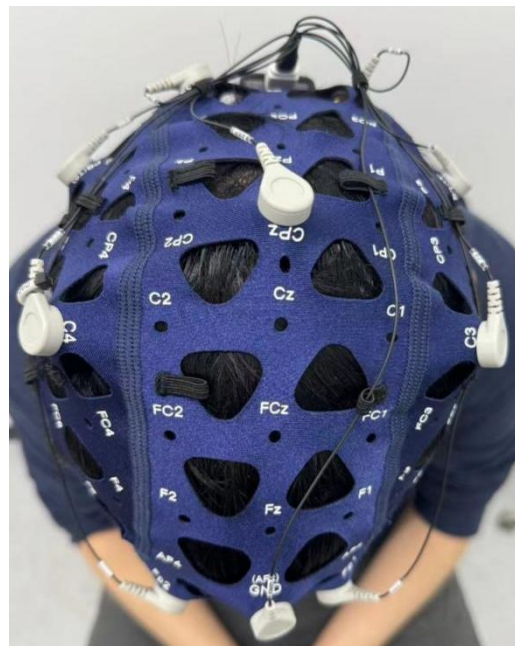

Figure 3.1-4
3. Smooth out the EEG electrode cap and ensure that each electrode metal needle is in vertical contact with the scalp, as shown in Figure 3.1-4.